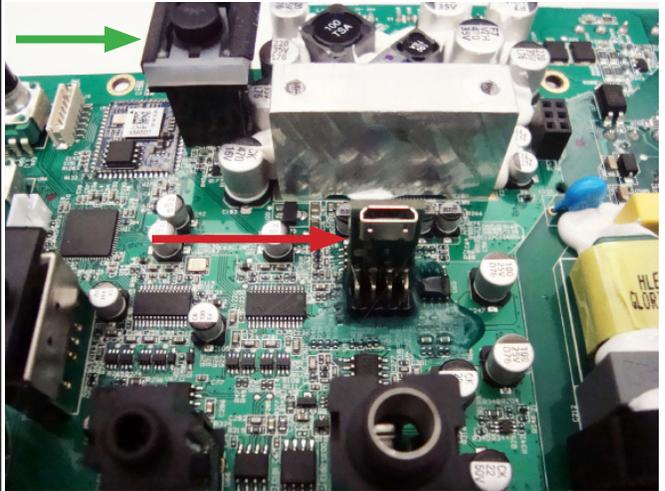

Figure 25
9.2 The arrows in figure 25 shows the Bluetooth® button and the Micro USB connector, both are located on the Main PCB assy.